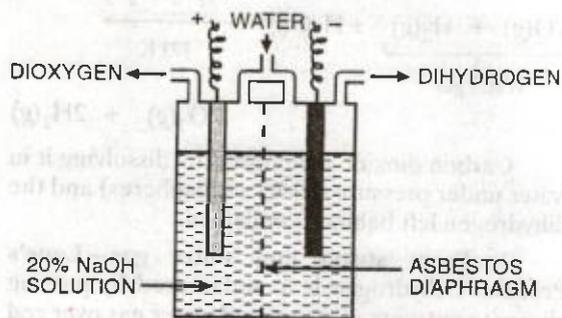

FIGURE 11.4. Electrolysis of water for commercial preparation of dihydrogen.
3. By the electrolysis of water. This is the best method of manufacturing dihydrogen where electricity is cheap. A small quantity (15–25%) of acid or alkali is added to water to make it a good conductor and electrolysed in a cell as shown in Fig. 11.4.